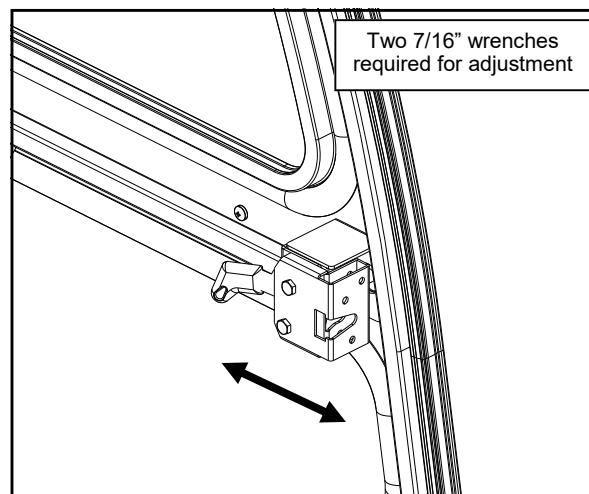

Fig. 17.3b (Door Latch Adjustment)
- Adjust the latch located inside the door horizontally - See Fig. 17.3b